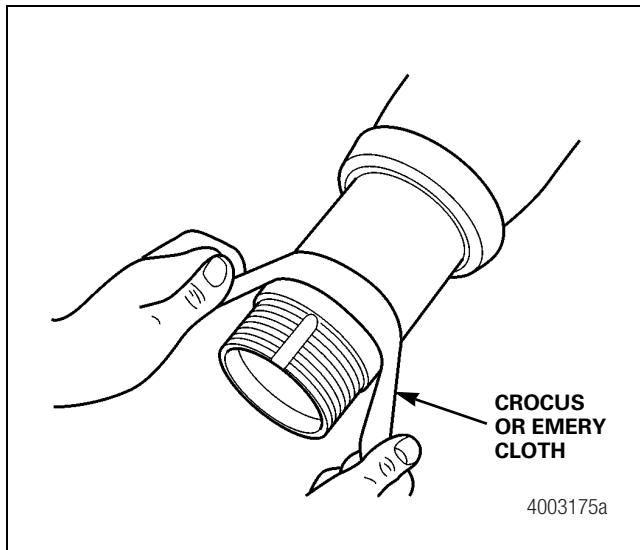

Figure 4.2
1. Inspect all machined surfaces of the axle assembly. Repair any scratches, nicks or mars with a crocus or emery cloth. Figure 4.2.